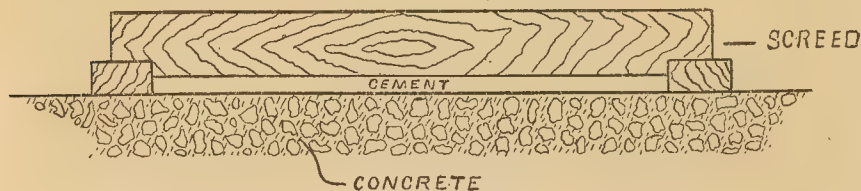

FIG. 9.
**FLOATING WALL TILE.** The mortar is spread between the guide strips for about five feet at a time and leveled with a screed notched at each end to allow for the thickness of the tile. (See Fig. 9.) The tiles are placed in position and tamped until they are firmly united to the cement and level with the strips. When the space between the strips is completed, which should be one side of the room, the strips are removed and the work continued in the same manner until completed. When the tiles are all set, the joints must be carefully washed out and neatly filled with thinly mixed pure Keene's Cement, and all cement remaining on the tile carefully wiped off.